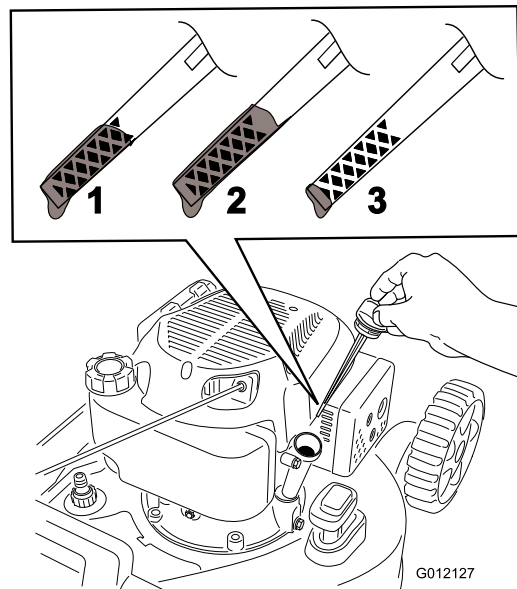

Figure 5
2. Remove the dipstick (Figure 5).
wiping the dipstick clean and then inserting, **but not screwing in**, the oil fill cap into the hole (Figure 5).
Note: Fill the engine crankcase with oil until the dipstick indicates that the engine oil level is correct as shown in Figure 5. If you overfill the engine with oil, remove the excess oil as directed in Changing the Engine Oil.